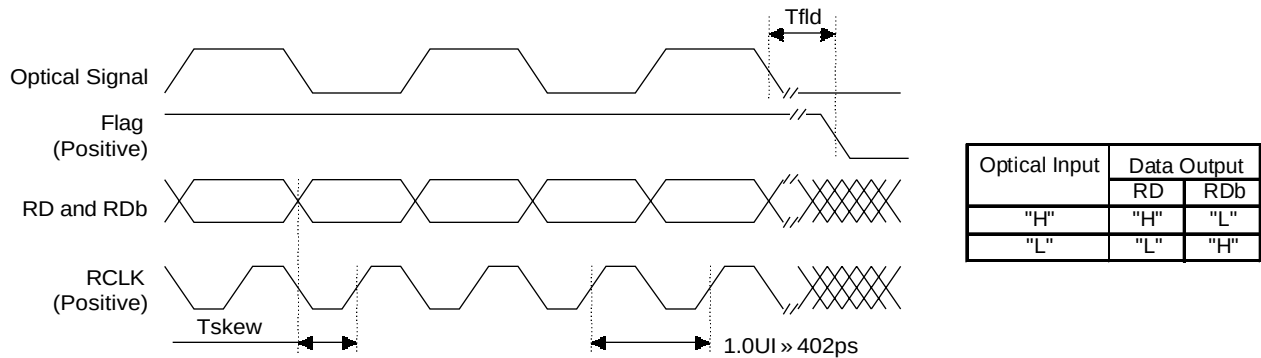

Figure 4 Output Timing Chart
4. R_I = 50 Ω , Single end out. 5. Please refer to Figure 4. 6. 2488.32Mbps, PRBS 2²³-1, NRZ
1. BER = 10⁻¹⁰ 2. Refer to Figure 4